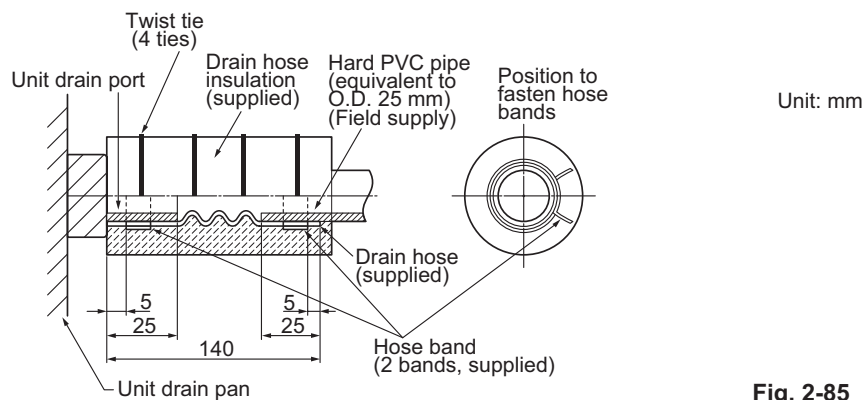

Fig. 2-85
(1) Drain hose connection
(2) Installing the drain hose
- Attach so that the hose band fastener is on the side of the drain port. (Fig. 2-85)